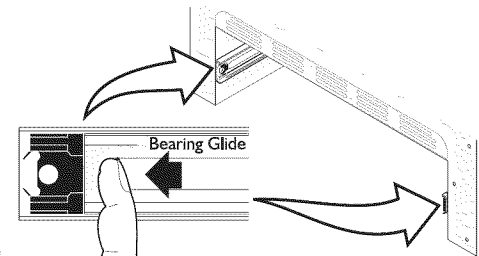

Fig. 14
- Pull the bearing glides to the front** of the chassis glide (See Fig. 14).